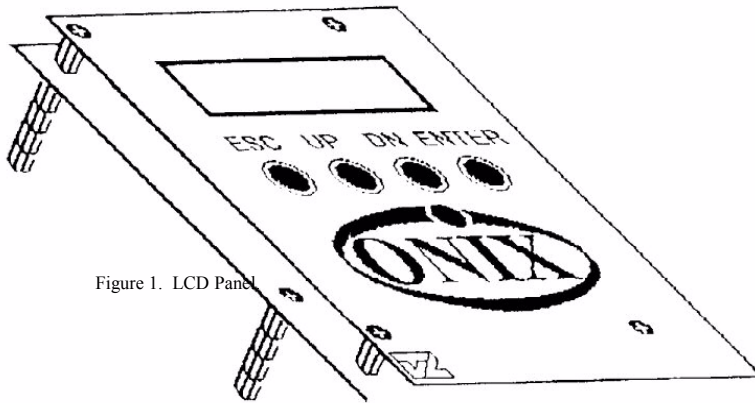

Figure 1. LCD Panel
2. Remove the J6809 CPU board from the Motherboard taking care not to damage the connector pins. To achieve this you must first remove the LCD panel from the motherboard via the front screws and pillars (Figure 1). Note the LCD panel and CPU board slide out together.